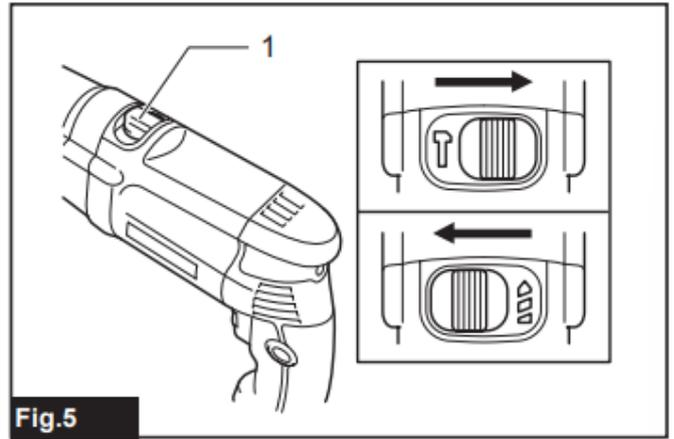

Fig.5
► **Fig.5:** 1. Action mode changing lever